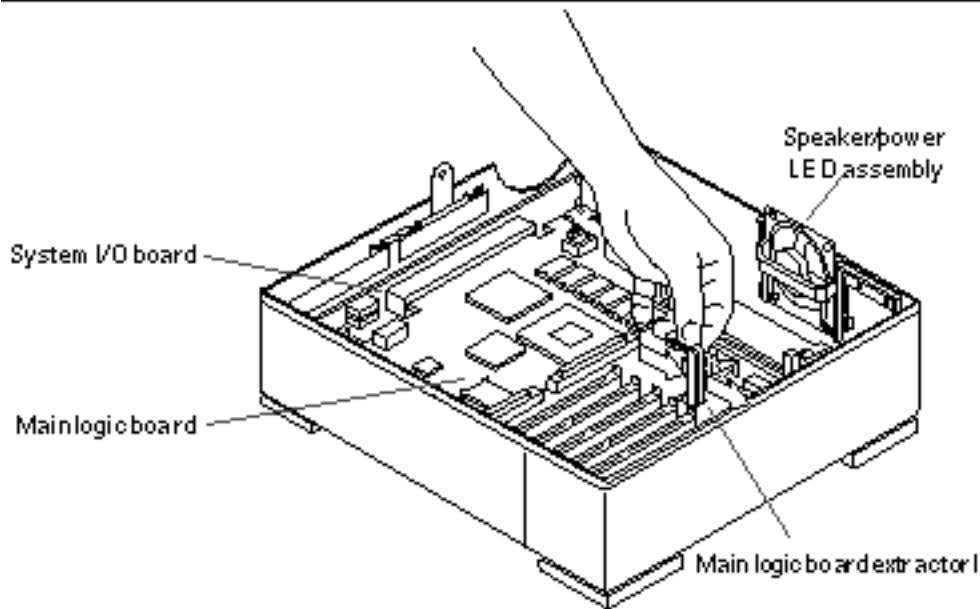

Figure 8-4 Extracting the Main Logic Board
1. Pull the main logic board extractor lever toward the front of the system unit to disconnect the main logic board from the system I/O board (see Figure 8-4).